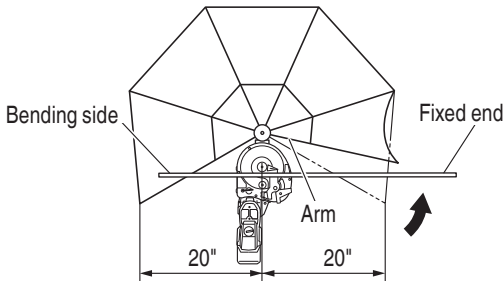

Fig. 51
- Install the deflection guard for operation with the bending length of a rebar 20" (inside dimension of the deflection guard) or less to protect the persons around the rebar cutter/bender in case rebar splinters into pieces and deflects during bending. (Fig. 51)
- (2) Be sure to install the deflection guard when bending a rebar whose bending length is 20" (inside dimension of deflection guard) or less and the fixed length is more than 20". In this case, move the arm at the fixed end. (Fig. 51)